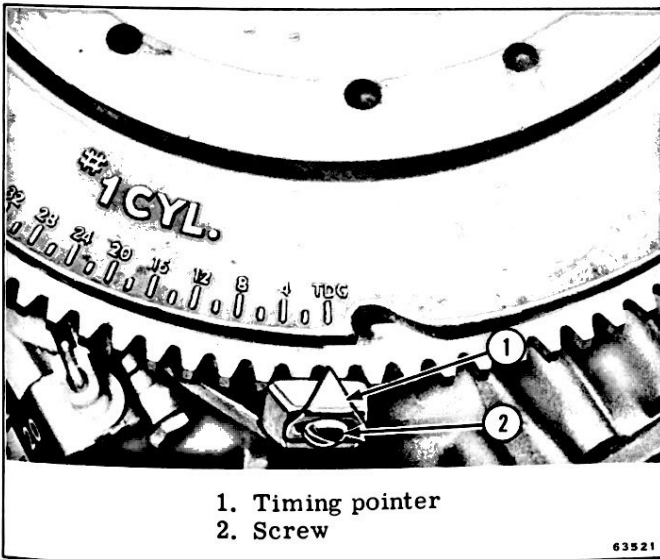

Figure 2-7. TDC Alignment
g. Turn the flywheel to align the mid-point mark with pointer (hold flywheel in this position). Loosen pointer adjustment screw, and move pointer to align with cast-in TDC mark on flywheel. See Figure 2-7. Tighten adjustment screw.